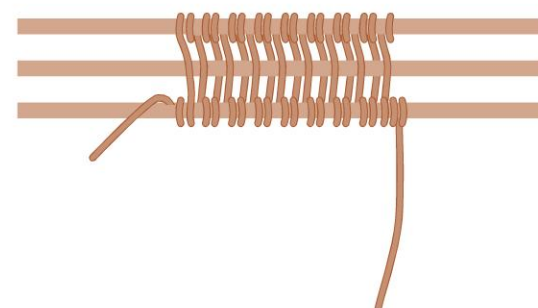

figure 23
- 6 Continue weaving, repeating Steps 4 and 5 (Figure 23). As you near the end of the frame wire, push the weave to the left to continue weaving.